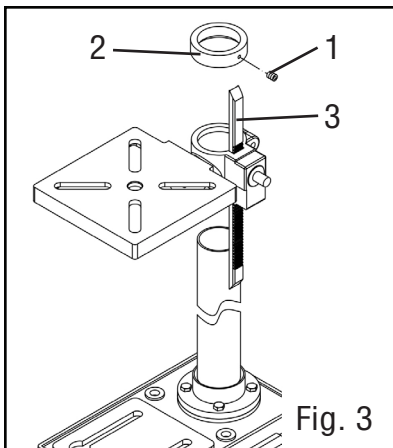

Fig. 3
1. Loosen set screw (Fig. 3 - 1) in rack collar and remove the collar from the column.
2. Remove the rack (Fig. 3 - 3) from the column.
3. Placing the rack into the table bracket, slide the table assembly with rack down directly onto the column (Fig. 3). The longer edge of the rack without gear teeth should be towards the top of the drill press.